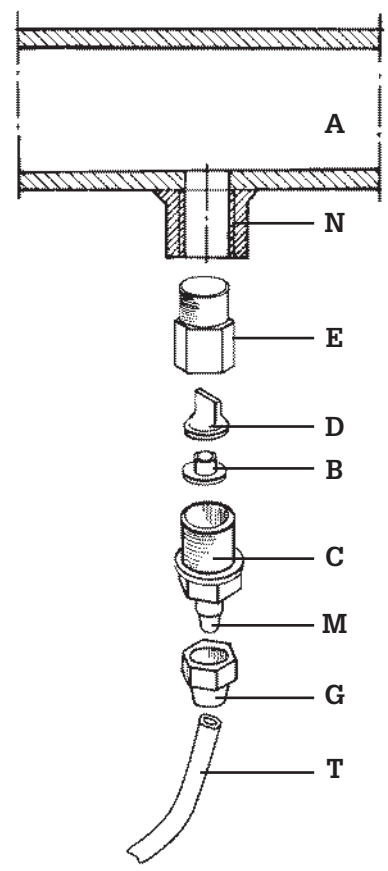

Fig. 8
- f. - Select the most appropriate injection point on a pipe of the plant to be treated and there fit a 3/8" female steel gas thread connector (similar to BSPm). This connector is not supplied with the pump. Screw the injection valve to the gas connector, inserting a gasket as shown in Fig. 8. Then connect the discharge hose to the conical connector on the injection valve and fix it with the supplied tube nut G. The injection valve also acts as no return valve.
**3.1 - INJECTION VALVE INSTALLATION DIAGRAM Fig. 8**